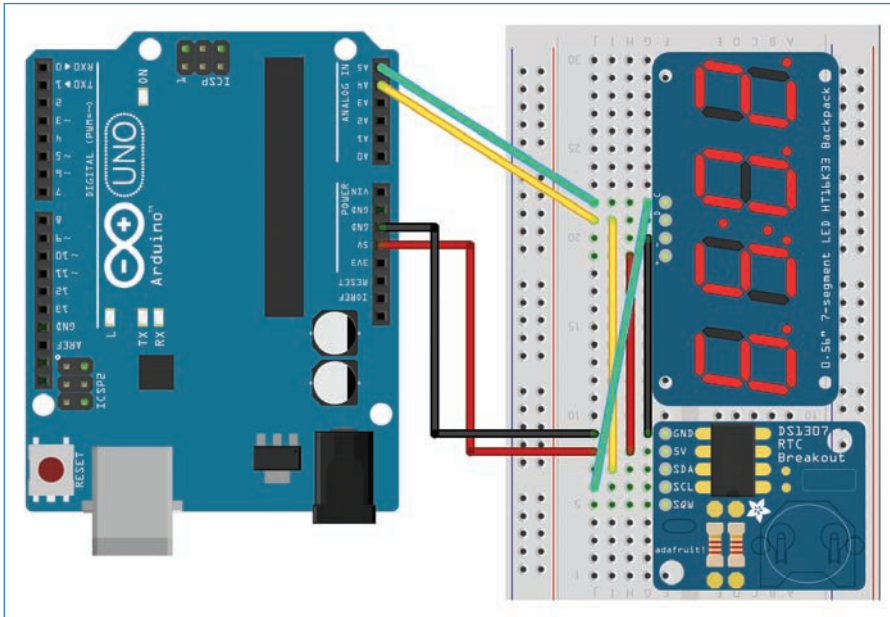

FIGURE 11.6 Wire up your clock as you see here.
Let's wire up the digital clock, following along with Figure 11.6. Note that the image I used for the RTC is the DS1307 I mentioned earlier in this chapter. Functionally it works the same as the ChronoDot, and they both use the same Arduino library, so for the purposes of this project, which one you use doesn't matter too much. Let's get started!
2. Attach the RTC module. This should also leave room for jumpers, as shown in Figure 11.6.
1. Connect the “+” pin on the backpack to the 5V pin on the RTC (marked as “VCC” on the ChronoDot) and to the 5V pin on the Arduino. This is the red wire in Figure 11.6.
2. Connect the “-” (ground) pin on the backpack to the GND pin on the RTC, and then to a GND pin on the Arduino. This is the black wire in Figure 11.6.
3. Connect the “C” (clock) pin on the backpack to the SCL pin on the RTC and then to pin A5 (that’s analog, not digital!) on the Arduino. This is the green wire in Figure 11.6.
4. Connect the “D” (data) pin on the backpack to the SDA pin on the RTC and pin A4 on the Arduino. This is the yellow wire in Figure 11.6.